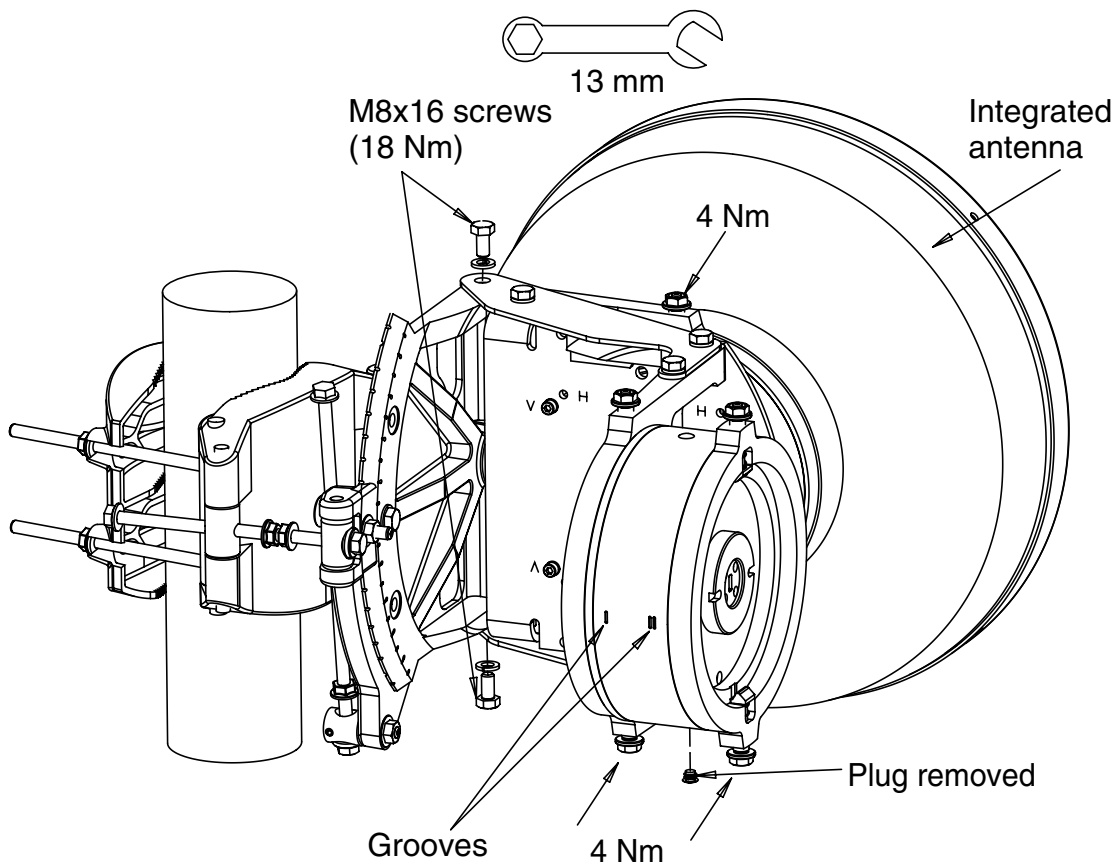

Figure 18. Mounting the 18 - 38 GHz coupler on the alignment unit
To mount the coupler on the alignment unit (see Figure 18):
The coupler input with the lower insertion loss from the radio to the antenna is marked with one groove (I) on the coupler (the side closer to the pole, see Figure 18). The coupler input with the higher insertion loss is marked with two grooves (II) on the coupler. See *Product Description* for the values of the insertion loss.